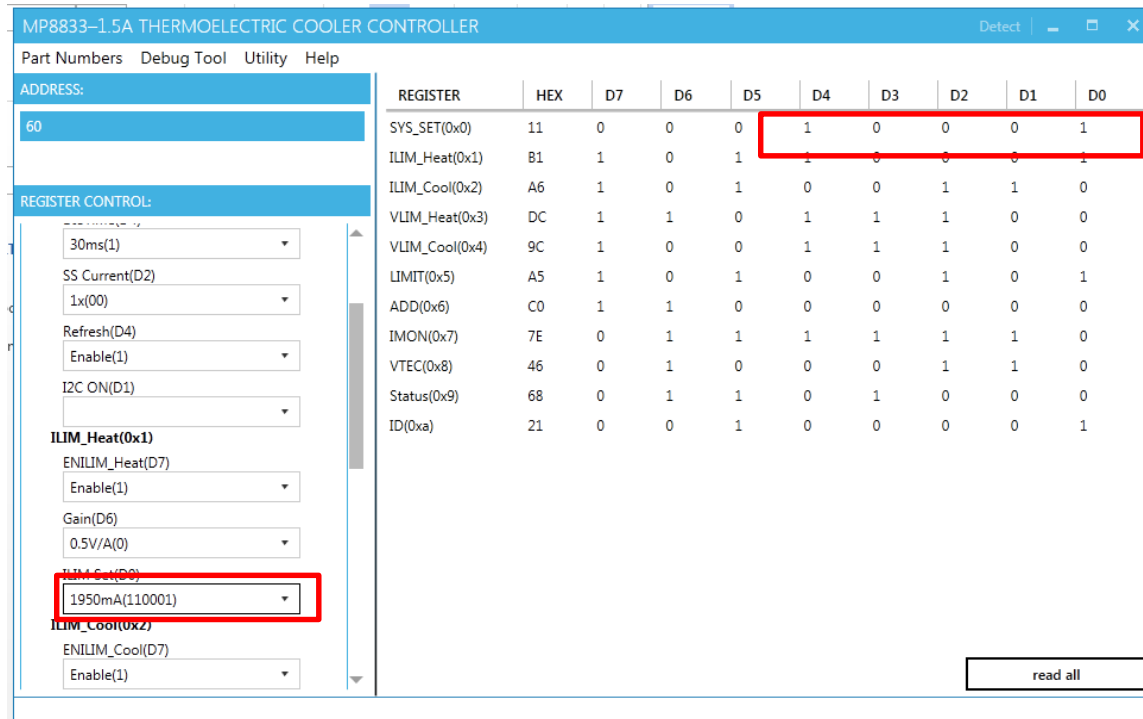

Figure 11: Changing Values Using the Software
- Find the item to change, then choose a value from the drop-down menu. The item's changed information should appear on the right side (see Figure 11).